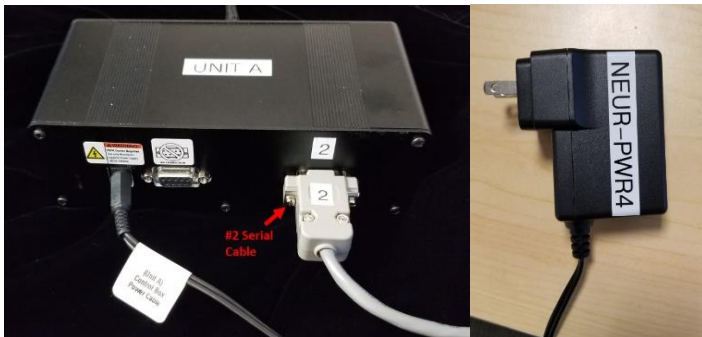
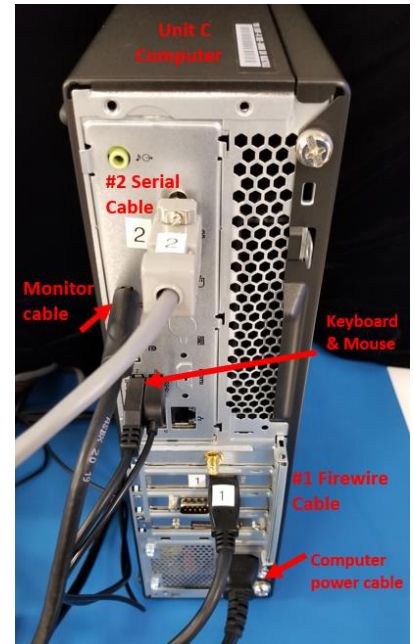

Figure 5
Figure 6
- Connect the grey Serial Cable (Item #2) and 9V power supply (Labeled NEUR-PWR4) to the open ports of the Control Box (Unit A) as shown below. See Figure 5. The other end of the Serial Cable is connected to the back of the computer as shown on the right. See Figure 6.